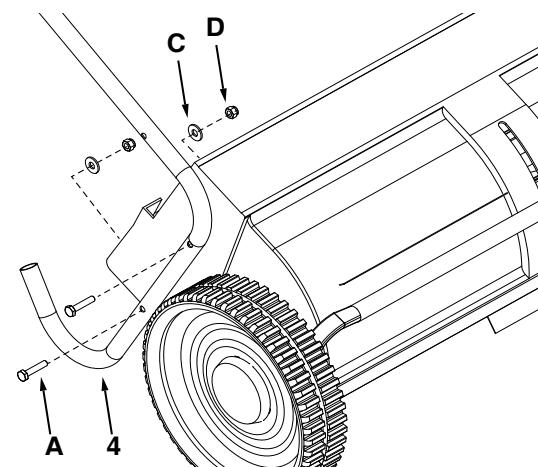

Figure 2
STEP 2: (SEE FIGURE 2)
- Turn the sweeper upright and assemble the two handle leg stand tubes (4) to the sweeper housing using two 1/4" x 1-1/4" hex bolts (A), flat washers (C), and 1/4-20 nylock nuts (D) per handle. Hand tighten.